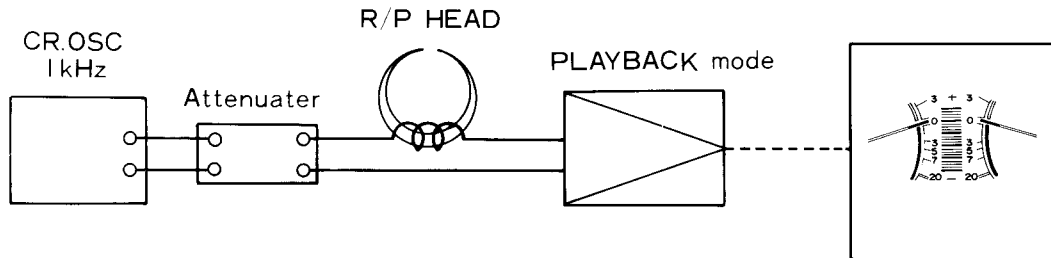

Fig. 17
3. ADJUSTMENT OF PLAYBACK AMPLIFIER SENSITIVITY (Refer to Fig. 17)